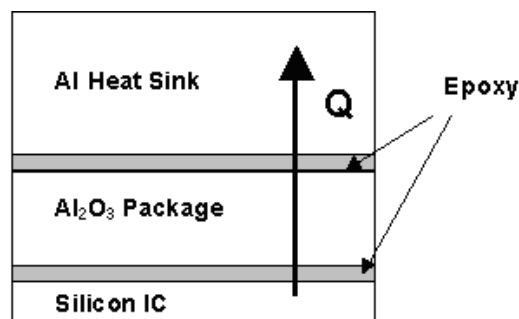

Figure 4a Thermal conduction from a Silicon IC to an Al heat sink, via an Alumina (Al_2O_3) package
- c. A 1cm^2 chip, dissipating 10W , is epoxy glued to a 5mm thick alumina substrate, which is in turn epoxy glued to a 10mm thick aluminium heat sink, as shown in Figure 4a. The chip temperature needs to be less than 120°C . Assuming linear heat conduction, what is the maximum allowed temperature at the surface of the heat sink? Assume the epoxy is coated to a thickness of $100\mu\text{m}$.